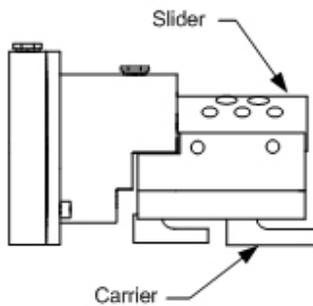

Fig. 8.14. M2CP Valve Components
8.3.11 M2CP valve (see Figure 8.14)